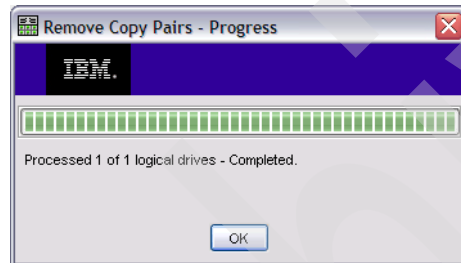

Figure 11-56 Remove Copy Pairs - completed
2. The progress window appears (Figure 11-56). When the process is complete, click **OK**.